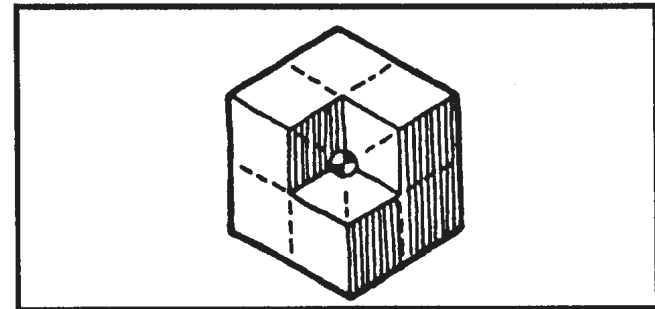
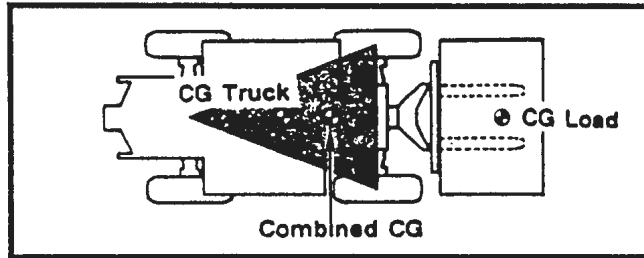

Figure 5-2. Center of Gravity of an Object
Figure 5-3. Combined CG of Lift Truck and Its Load
The center of gravity (CG) of any object is the single point about which the object is balanced in all directions. Every object has a CG. Refer to Figure 5-2. When the lift truck picks up a load, the lift truck and the load have a new combined CG. The stability of the lift truck is determined by the location of its CG, or, if the lift truck is loaded, the combined CG. Refer to Figure 5-3.